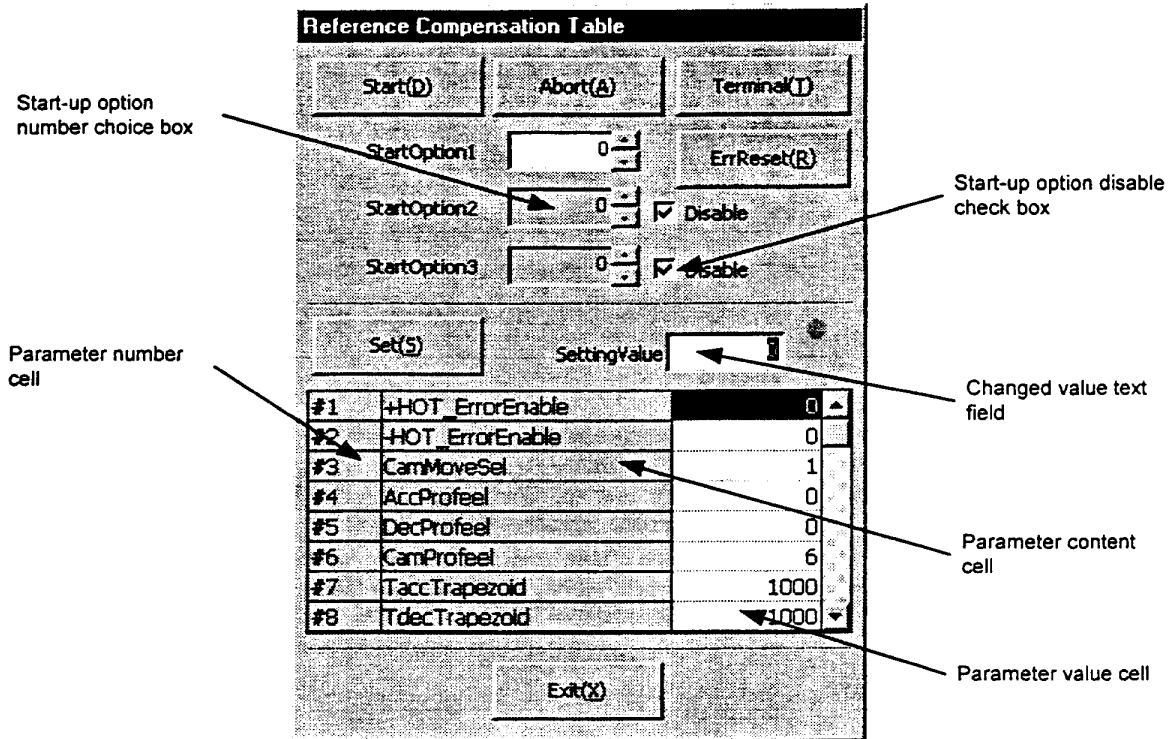

Figure 7.25 "Reference Compensation Table" dialog box
Click "ReferenceTable (R)" in the "DriveMenu" dialog box to display the "Reference Compensation Table" dialog box (see Figure 7.25). If the connection with the driver is established, the current values of the related parameters are read and can be edited.